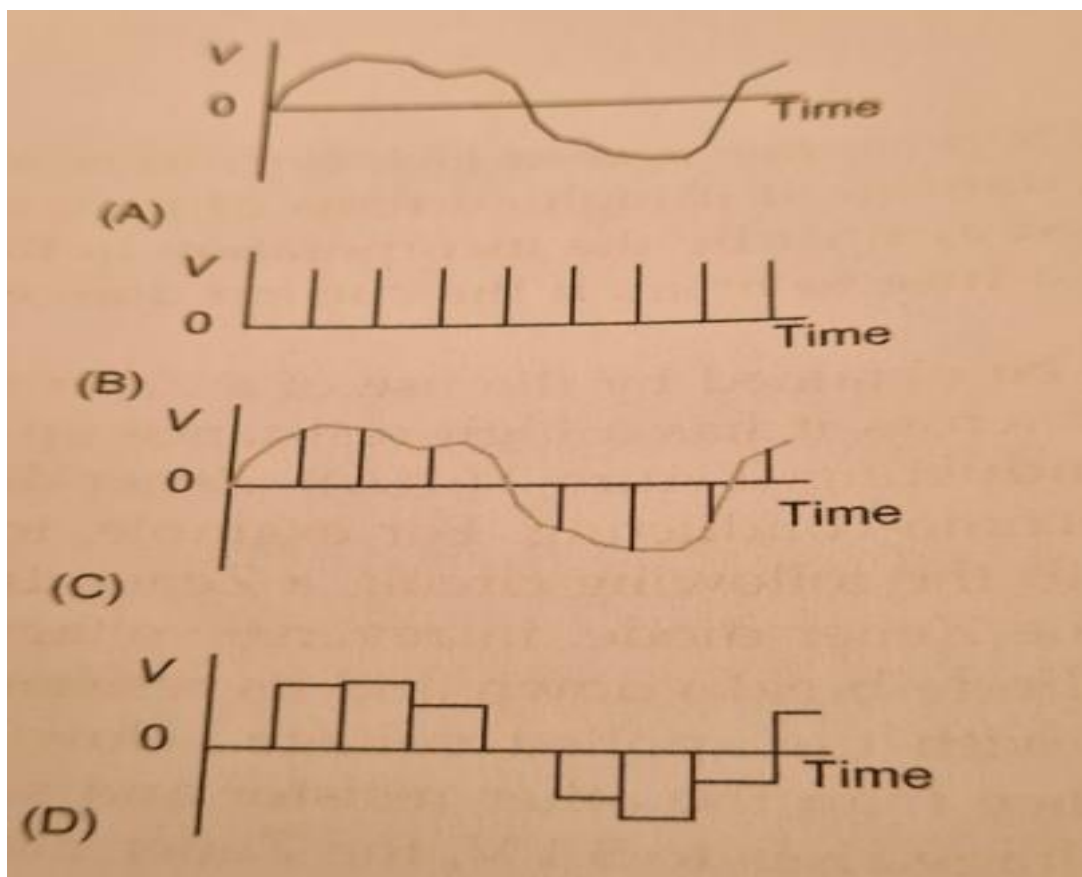
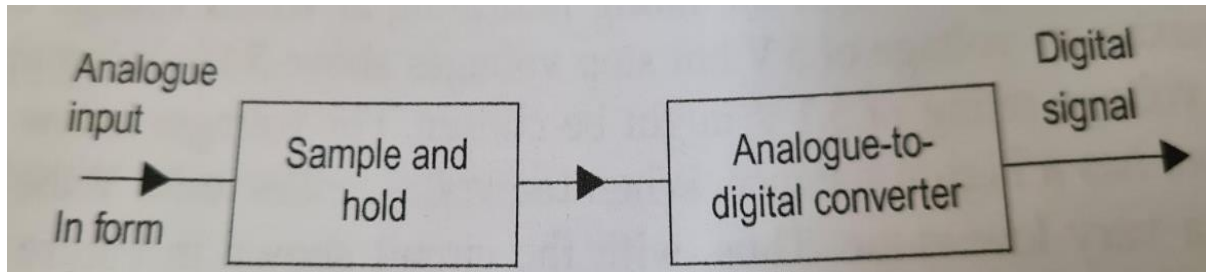

Figure 12 – Signals within the ADC process (Bolton, 2015).
Figure 13 – ADC conversion (Bolton, 2015).
In many applications, there is a requirement to convert the analogue signal (e.g. 4-20mA) from a sensor into a digital signal suitable for a microprocessor. This is carried out using a device called an Analogue to Digital converter (ADC). Figure 12 below displays four graphs. The first (A) demonstrates a constantly variable analogue signal. The second (B) shows a digital signal, increasing in jumps rather than the smooth movement in (A). The first stage of an ADC process is shown in (C). The analogue signal is sampled at regular intervals via an onboard clock, with a 'series of narrow pulses with heights which vary in accord with the variation of the analogue signal' (Bolton, 2015). These pulses are then held as illustrated in (D). This allows the conversion from an analogue value into a binary, digital sequence of pulses within the ADC converter.
Figure 13 below illustrates the full process with reference to figure 12. The analogue input below refers to (A) whilst the sample and hold box refers to (D)